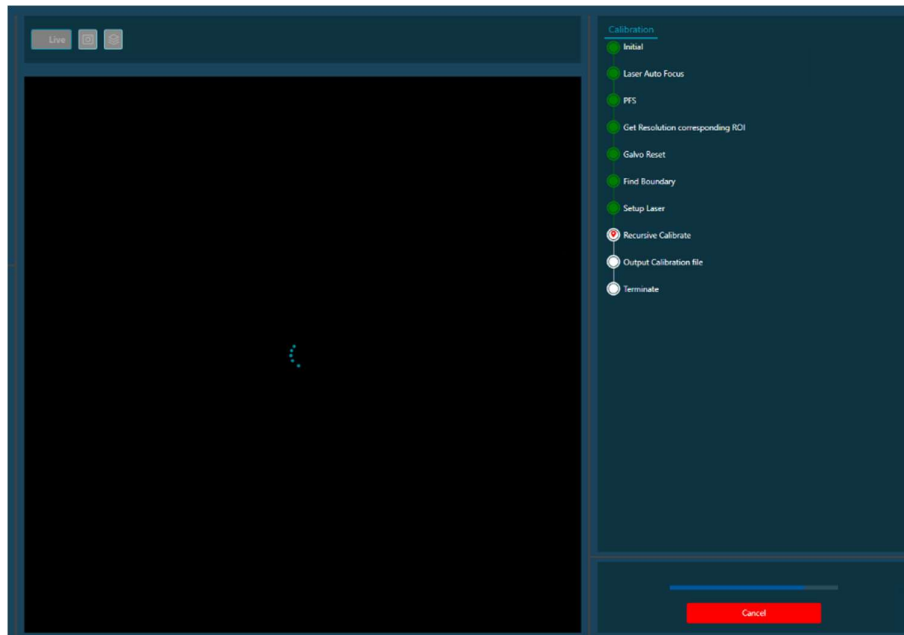

Fig. 13 – Calibration in Progress
3. On the right side, an indicator will show that you are at the Recursive Calibrate step, and the image window will be black with a whirling busy icon (Fig. 13). This step can take a few minutes to complete. Be careful not to touch the joystick or components on the optical table until the process is complete.